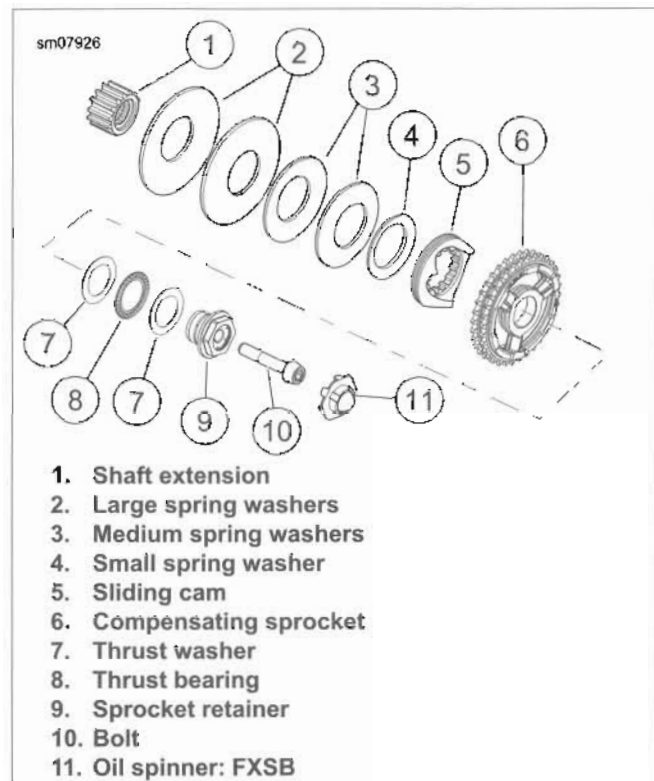

Figure 5-11. Engine Compensating Sprocket Assembly
1. See Figure 5-11. Install engine compensating sprocket.
- a. Apply a thin layer of primary chaincase oil to the inner diameter of the compensating sprocket (6).
- b. Apply a thin layer of primary chaincase oil to the splines of shaft extension (1).
- c. Assemble shaft extension, large spring washers (2) and medium spring washers (3).